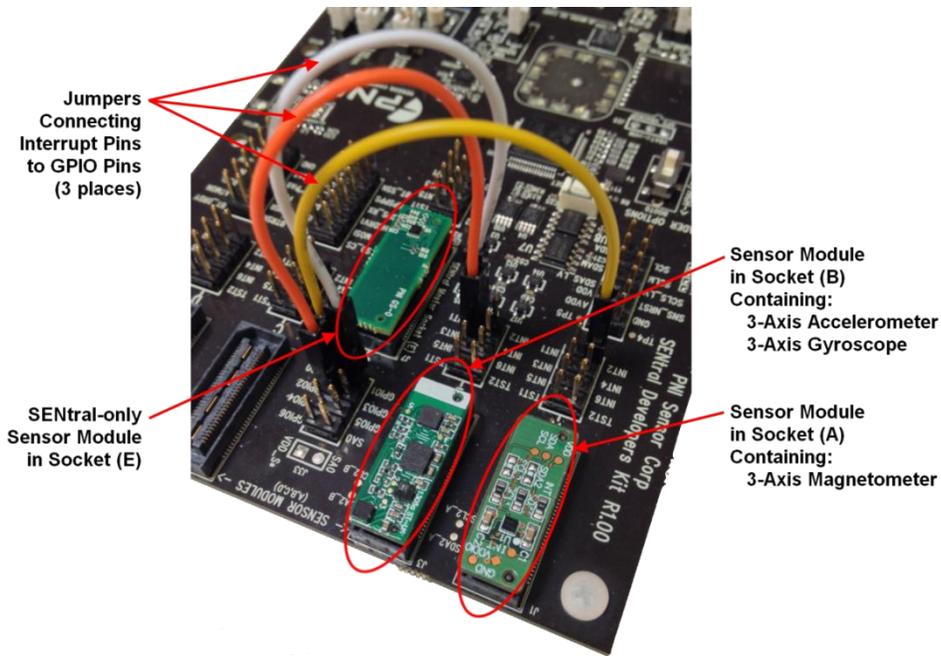

Figure 4-3: Multiple Sensor Modules Mounted on Development Board
For the multiple sensor modules approach, SENtral is mounted on the PNI-supplied SENtral-only sensor module and placed in the SENtral Master Socket (E), while the sensors are mounted on one or more sensor modules and placed in sensor module sockets, A through D. Note that 1, 2, 3, or all 4 sockets may be populated, but combined they must include a magnetometer, accelerometer, and gyroscope. The user must ensure that none of the sensors share an I2C slave address. For the multiple sensor modules approach it is necessary to install jumpers to connect the interrupt signals from the magnetometer, accelerometer, and gyroscope to SENtral’s GPIO inputs. An example of such an implementation is shown in Figure 4-3, and a discussion of the jumpers follows.
For the example shown in Figure 4-3: